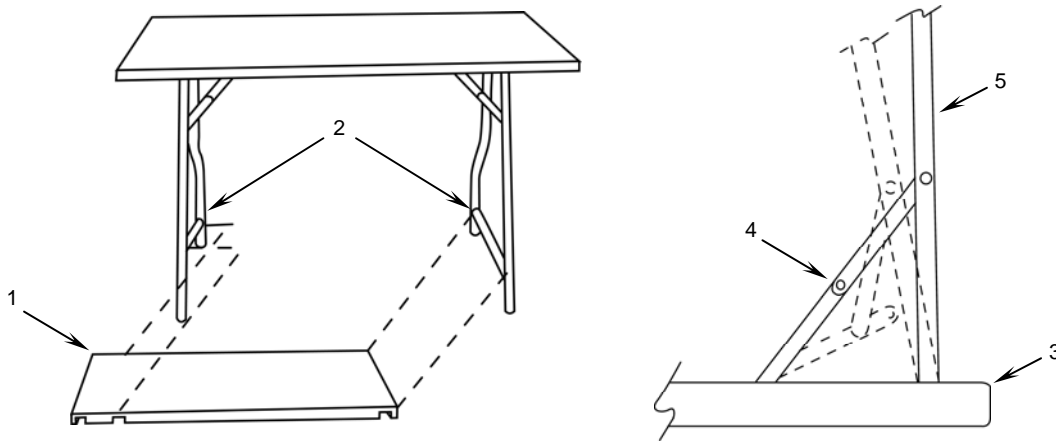

Figure 13. Disassembling the Work Table.
- a. Remove the shelf (**Figure 13, Item 1**) from the work table crossbars (**Figure 13, Item 2**).
- b. Turn the table (**Figure 13, Item 3**) upside down.
- c. Push-in the linkage (**Figure 13, Item 4**) of each table leg from its fully extended position, and fold the table legs (**Figure 13, Item 5**) to lie flat against the bottom of the table top.